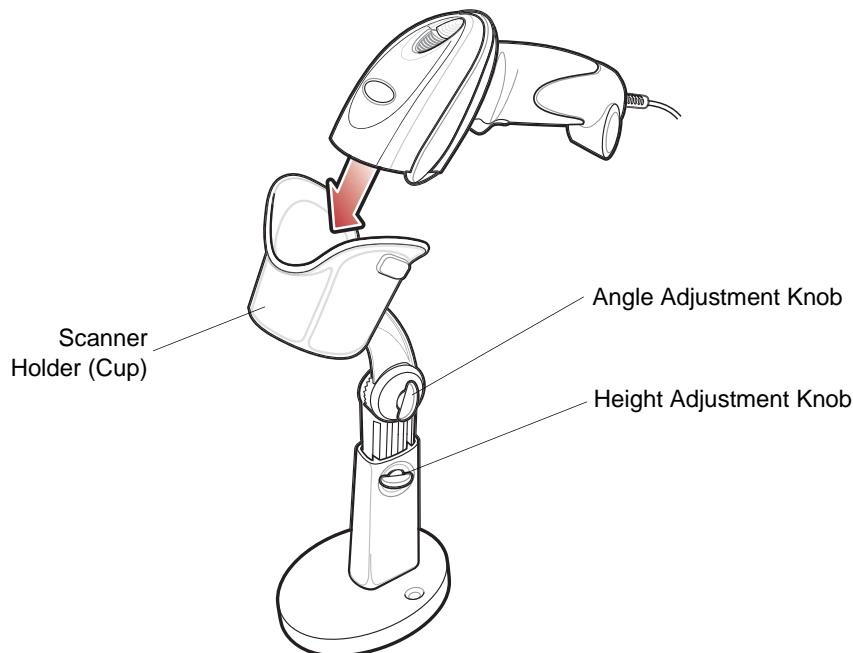

Figure 2-6 Inserting the Digital Imager Scanner in the Intellistand
2. Insert the digital imager scanner in the Intellistand by placing the front of the digital imager scanner into the stand's "cup" (see Figure 2-6).